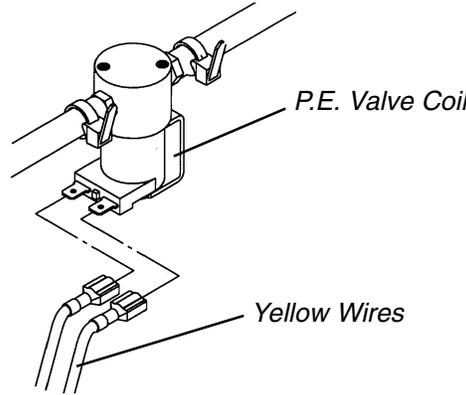

FIGURE 4 - P.E. VALVE COIL TEST
P.E. Valve Coil Test (FIGURE 4)